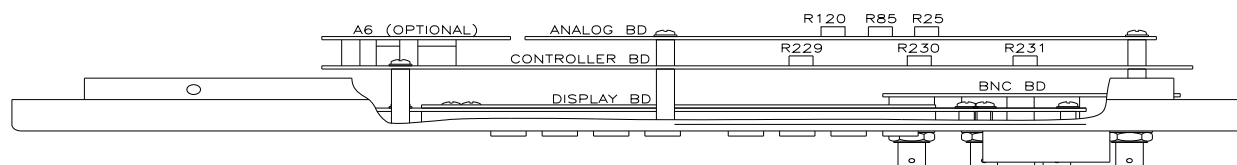

Figure 6-2: Front Panel Assembly Adjustment Location (Top View)
The non-routine calibration involves removing the top cover from the power source. Remove the line power from the power source before removing the top cover. All of the adjustments are on the Front Panel Assembly as shown in Figure 6-2.
4. Press the OUTPUT key to turn on the CSW. Perform the adjustment indicated in Table 3-1 for the indicated output phase. Make the adjustment for the lowest AC output signal. Refer to Figure 6-2 for the location of the adjustments. The external DVM should be on the 10 or 20 VAC range¹.